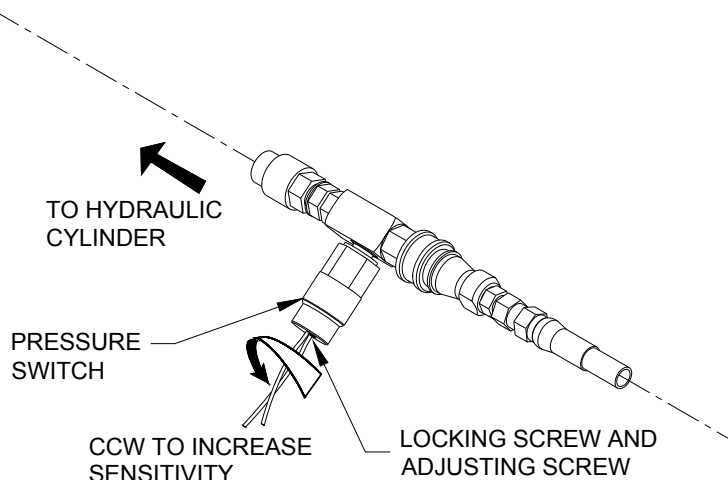

FIGURE 2-17: ANTI-STOW PRESSURE SWITCH
- a. Refer to **Figure 2-17**. The pressure switch adjusting screw is located at the top of the body, between the two lead wires. If available on your configuration, there may be a locking setscrew above the adjusting screw, which must be removed to carry out pressure switch adjustments.